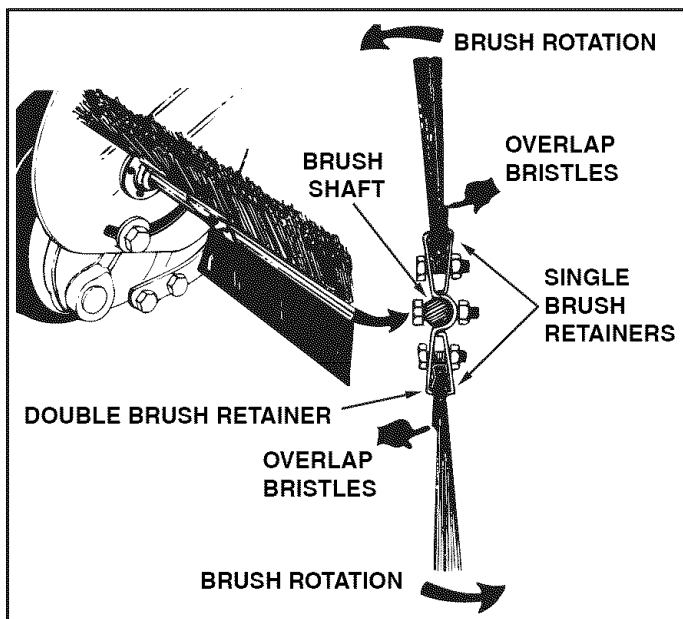

FIGURE 27
- Loosen the hex bolts and lock nuts on two single brush retainers which clamp one brush to the double brush retainers. **Do Not loosen** or remove the bolts which fasten the double brush retainers to the brush shaft. See figure 27.
- Slide the brush out of the retainers, noting on which side of the brush the bristles overlap. See figure 27.
- Install new brush, making sure the bristles overlap on the same side of the brush as before. See figure 27.